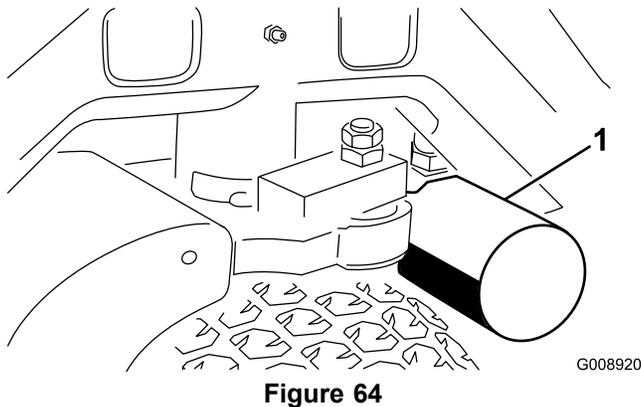
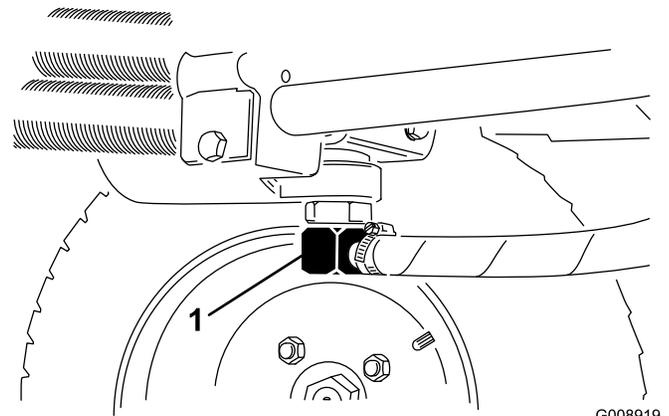

Figure 64
Figure 65
3. Clean around the filter mounting area. Place a drain pan under the filter (Figure 64) and remove the filter.
2. Disconnect the hydraulic line (Figure 65) or remove the hydraulic filter (Figure 64) and let the hydraulic fluid